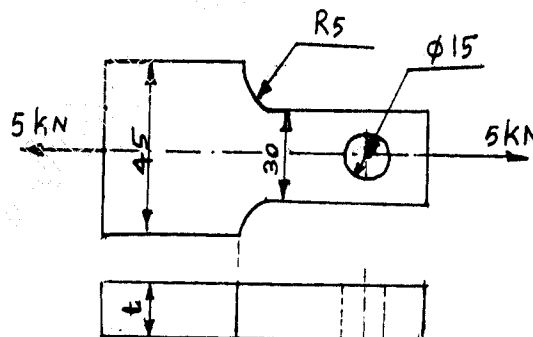

Fig.Q2(b)
- b. A flat plate subjected to a tensile force of 5 kN is shown in Fig.Q2(b). The plate material is grey cast iron having  $\sigma_u$  value of 200 MPa. Determine the thickness of the plate. Factor of safety is 2.5. (08 Marks)